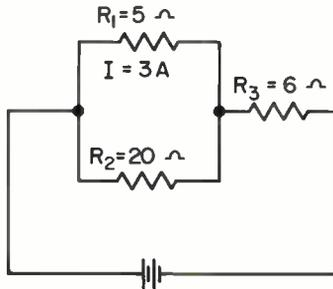

Fig. 40
6. In Fig. 40, the voltage across R_1 is (a) _____ V. Since R_1 and R_2 are in parallel, the voltage across R_2 is (b) _____ V. The current through R_2 is (c) _____ A, and the current through R_3 is (d) _____ A. Power dissipated by R_1 is (e) _____ W; that by R_2 is (f) _____ W; and that by R_3 is (g) _____ W. Voltage supplied by the battery is (h) _____ V. Power supplied by the battery is (i) _____ W.